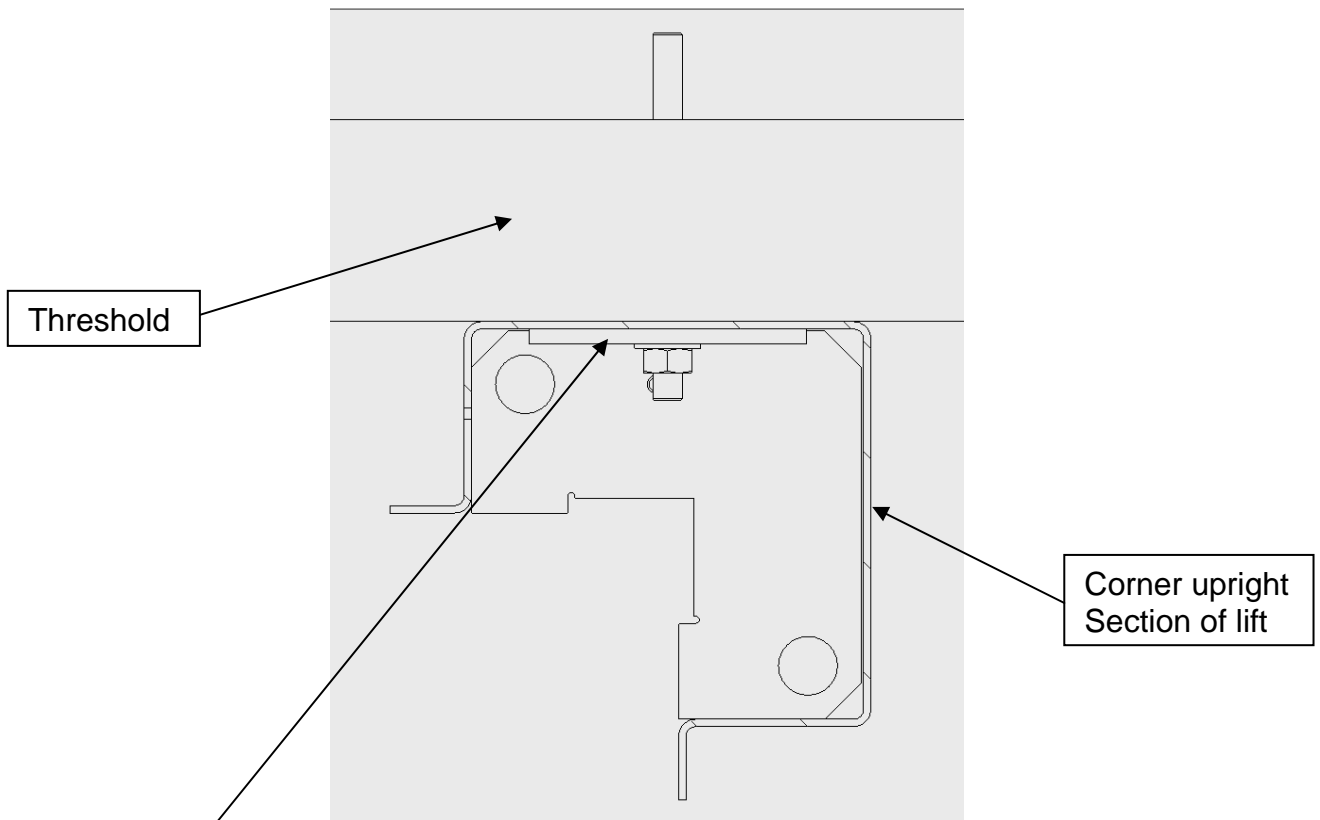

Fig. 1a Spreader plate position.
The Midilift SL should be secured (amongst other positions) at threshold level in position C as indicated on data sheet AVL 622 (T). To facilitate this, a guide fixing bracket is supplied. However if this bracket cannot be used then the spreader plate, part number 6101217, should be used to secure the lift at threshold level as detailed in figures 1a and 1b.